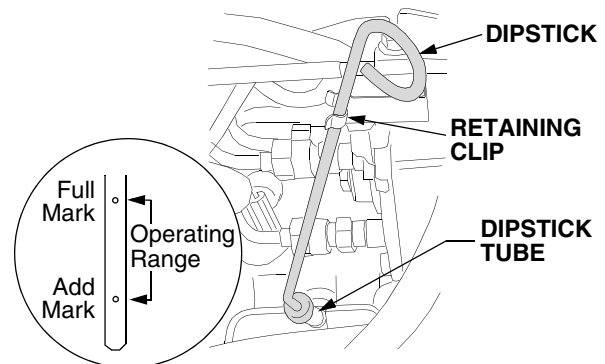
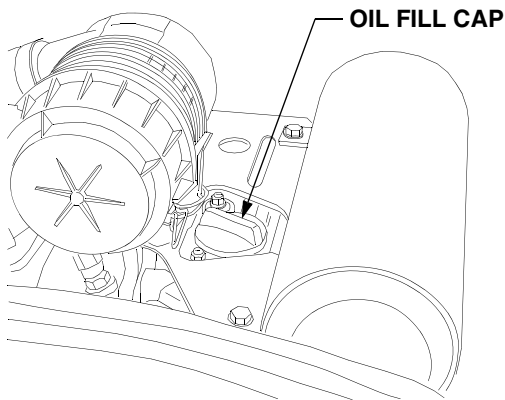

Figure 50
Figure 51
- Check the oil level only while the engine is stopped and the tractor is level. Clean the area around the oil level dipstick to prevent debris from entering the crankcase. See Figure 50.
- Always keep the oil level between the full and the add marks on the dipstick. See Figure 50.
- Clean the area around the oil filler cap to prevent debris from entering the crankcase. See Figure 51.
- SLOWLY pour oil into the crankcase until the oil level reaches the "FULL" mark on the dipstick. Refer to Figure 50.
- Remove the dipstick and oil fill cap from the engine. Refer to Figure 50 and Figure 51.